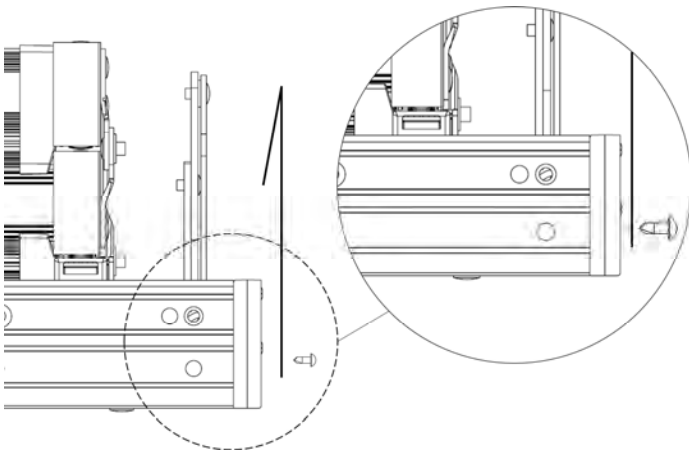
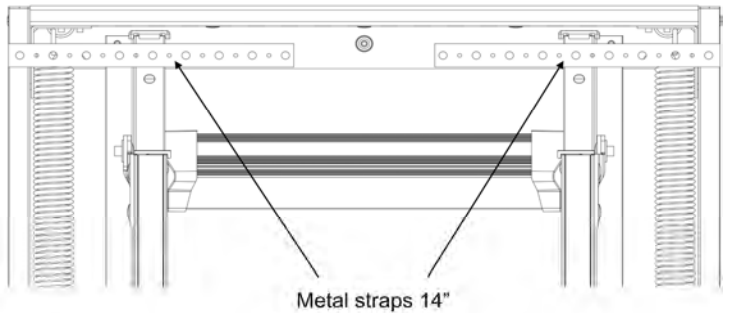
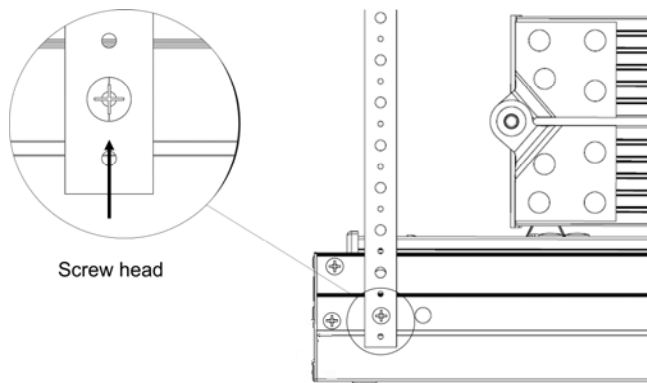

FIGURE 4 : STRAP INSTALLATION
FIGURE 6: STRAP POSITION
FIGURE 5: STRAP POSITION
C. Carefully unfold the 14" metal straps, these could have sharp edges. Place a #10 3/8" Phillips screw through the **bottom** 1/4" diameter (large) strap hole. Position a metal strap against the side of aluminum frame over the predrilled hole as shown in **Figure 4** and **Figure 5**. **DO NOT** let the metal straps extend below the aluminum frame. See **Figure 7**. Hold the metal strap securely to prevent rotation of the strap while screwing it to the aluminum frame.
E. Position both straps vertically as shown in **Figure 5**. Fold both straps inward over the climbing section and out of the way. See **Figure 6**.